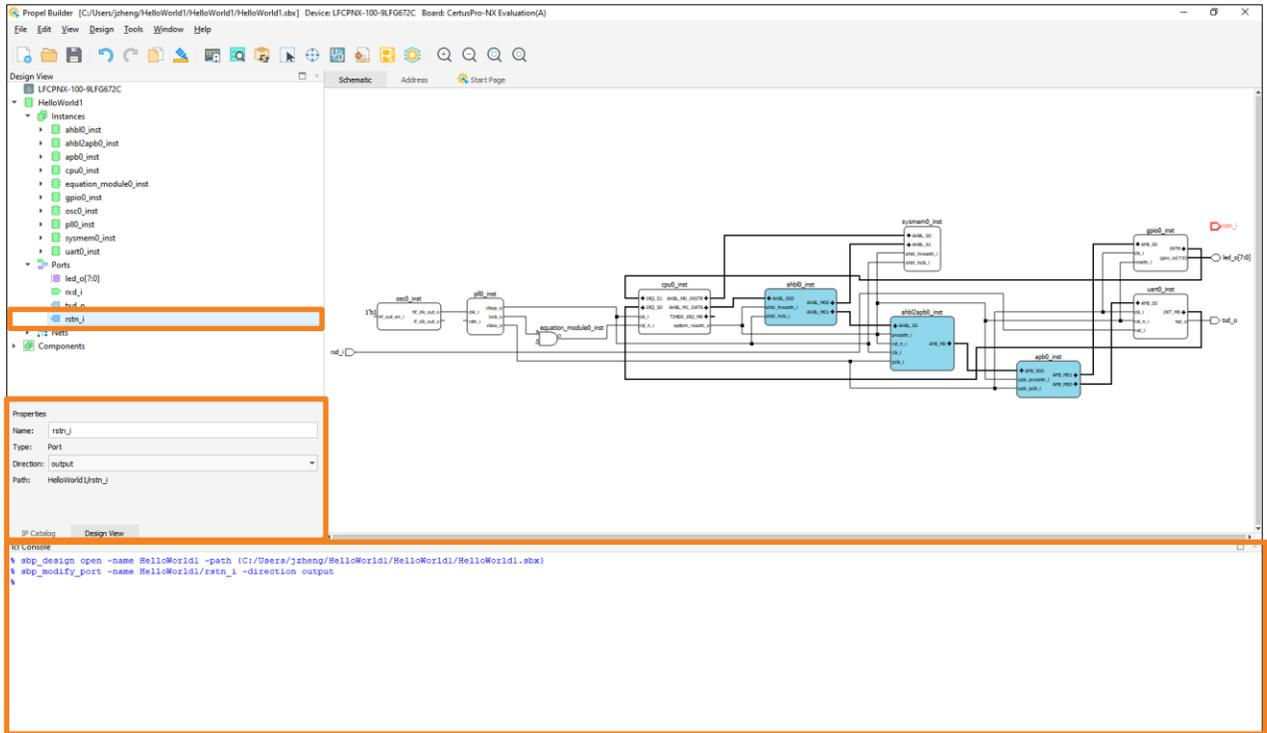

Figure 2.75. Port Direction
- b. Port direction can be modified. You can use the drop-down menu to choose the desired port direction. TCL command is shown in **Design View** (Figure 2.75).
- c. Port width can only be modified if it is already multi-bit. An error message is prompted out or shown in TCL Console, if the input value does not meet rules (Figure 2.75).